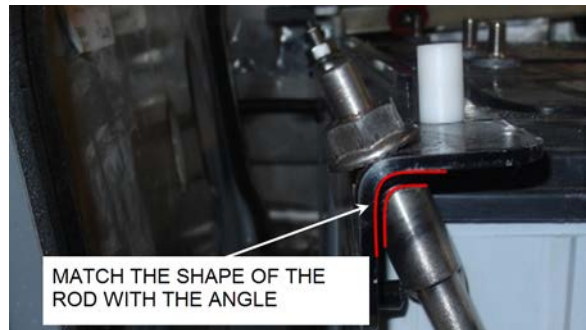

FIGURE 50: SHAPE OF THE ROD
- The upper end of the rods is shaped to match with the angle (FIGURE 50).